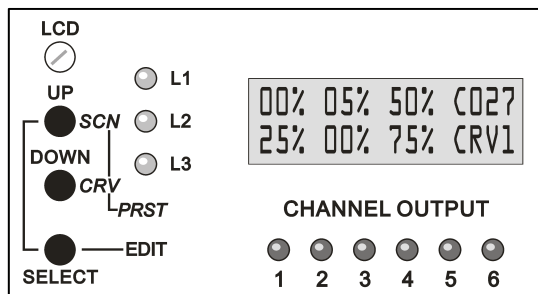

Fig.1
Fig.1 (representing a 6 channel unit: LTC62 or LTC63 – LTC35 should have a similar display but information will regard only to 3 channels) shows how control panel looks like, when in normal display, and after receiving DMX data for channels 27 to 32. “C027” (right side, upper corner), indicates that selected DMX channel is 27, and “CRV1” (right side, lower corner), indicates that all channels has dimming curve 1 pre-set. If one or more channels have different pre-set curves, an “\*” should be displayed.
- If we want to select DMX channel 27 (following fig.1 example), this digit should be "0". In that case we should follow to "tens" digit, touching **SELECT** key once. "Tens" digit will blink: **C001**. Touching two times **UP** key, number **2** will appear. Now we'll need to define "units" digit.